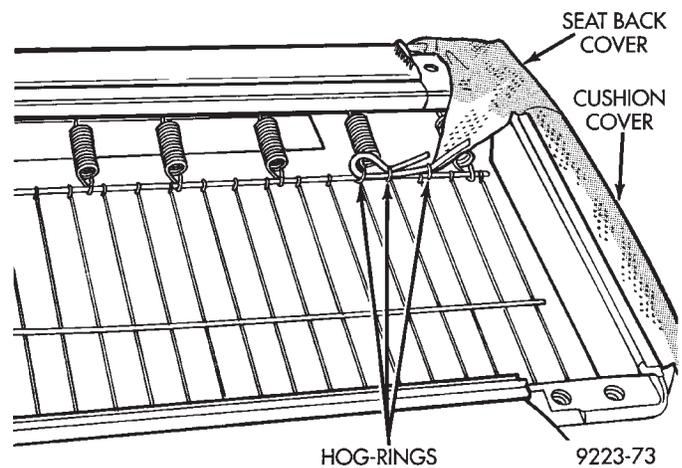

Fig. 32 Seat Back Cover Hog-rings
- (1) Remove seat from vehicle.
- (2) Remove risers from bottom of seat.
- (3) Remove child seat modules.
- (4) Remove outboard arm rest and pivot bracket.
- (5) Remove hog-rings holding lower rear corners of seat back cover to cushion frame (Fig. 32).